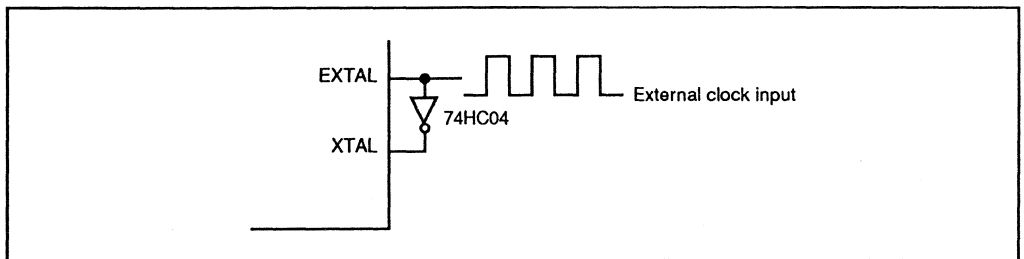

Figure 16-5. External Clock Input (Example)
(2) Input of External Clock Signal
① **Circuit Configuration:** An external clock signal can be input at the EXTAL pin. The reverse-phase clock signal should be input at the XTAL pin, as shown in the example in Figure 16-5.